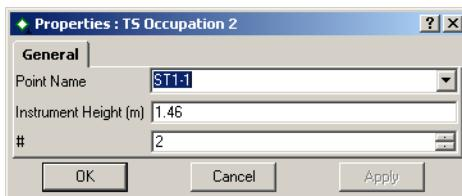

Figure 4-67. Properties
2. On the **Properties** dialog box, edit point name, instrument height and point number as needed (Figure 4-67).